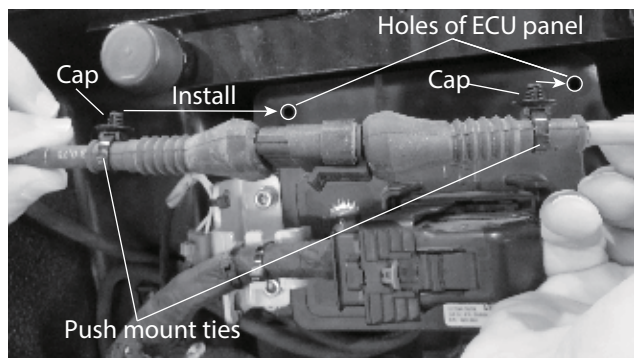

Figure 23. Secure Cables
12. Tighten the two push mount ties to cables align the caps of them with the holes of the ECU panel. Then, secure cables by installing the caps of push mount tie to holes of ECU panel. See Figure 23.